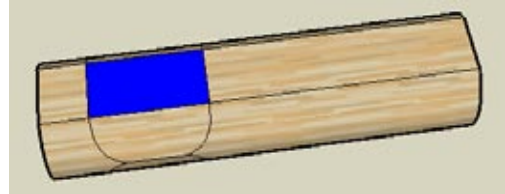

Figure 3-69
8. To make the following steps easier, paint this top face (mine is blue, as you can see in Figure 3-69).